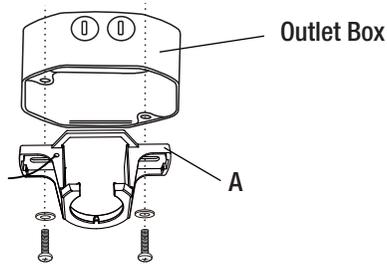

Figure 7
- Secure the mounting bracket (A) to the ceiling outlet box as shown in Figure 7 by using two screws and washers (not provided). Make sure the mounting bracket is level. You may need to insert additional washers (not provided) between the outlet box and the mounting bracket to make it level.